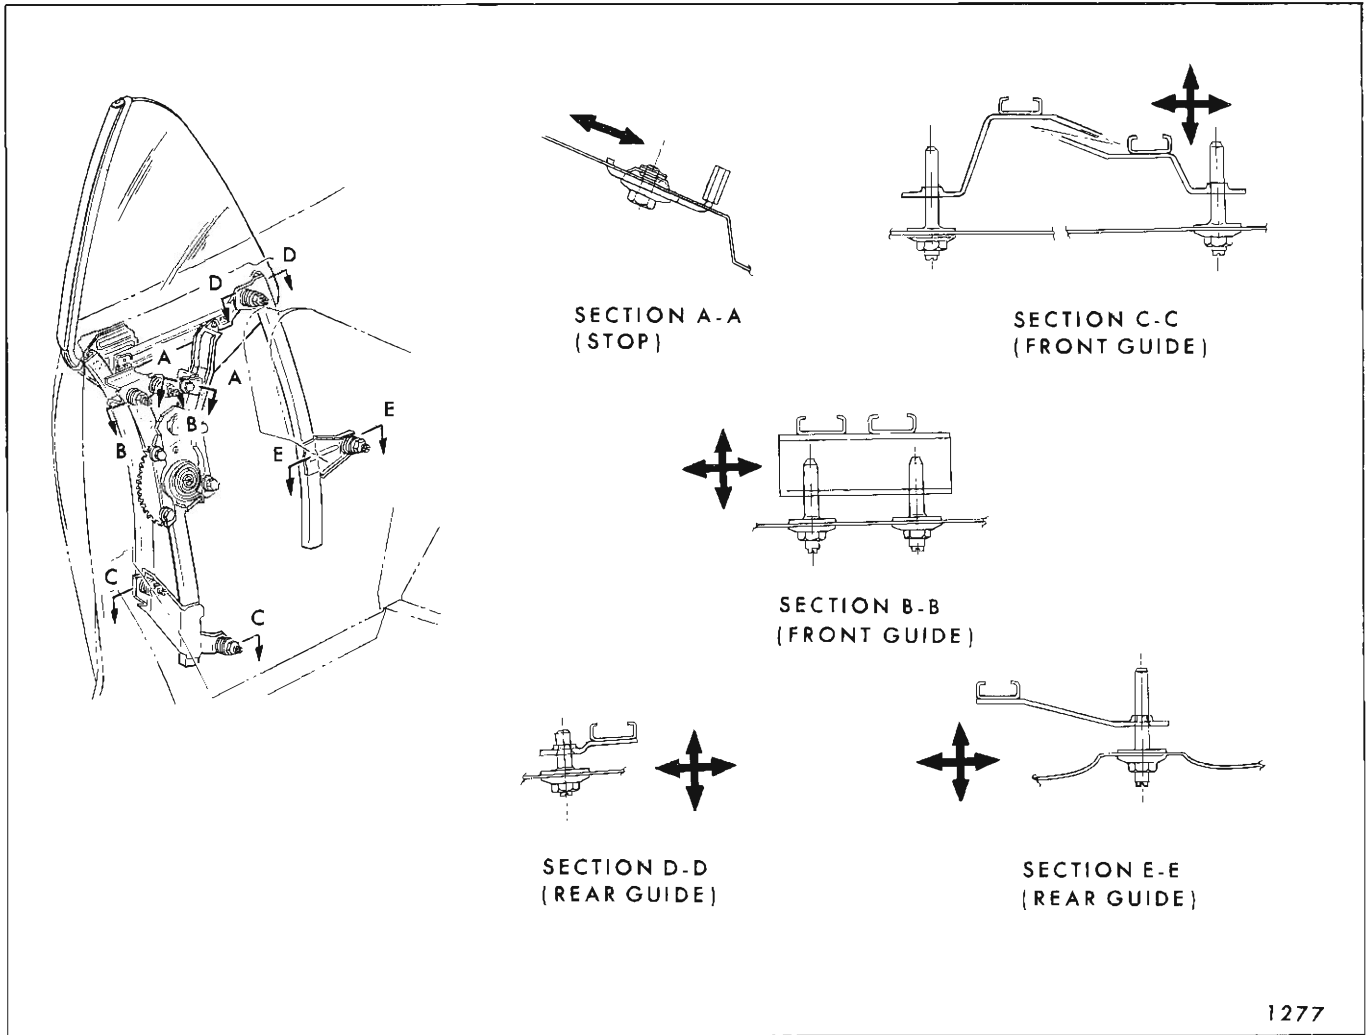

Fig. 5E13—"67" Style Rear Quarter Window Adjustments
for adjustments of glass to side roof rail weather-strip (see section A-A in Fig. 5E13).
2. Both front and rear guides provide fore or aft and in or out adjustment at all attaching locations. The upper attaching locations directly affect position of quarter glass and lower attachments provide smooth operation of dropping rear quarter window (see Fig. 5E13).